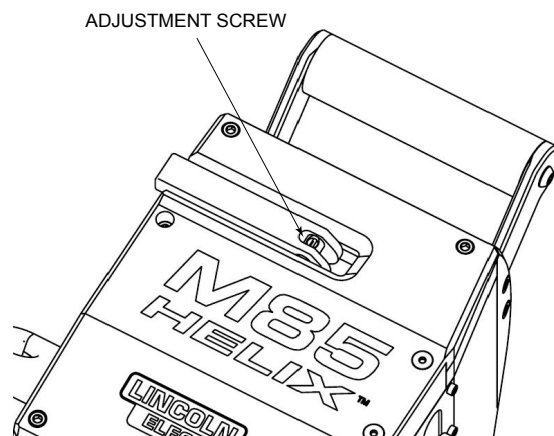

FIGURE 16 - Adjustment Screw
1. To adjust the clutch latch tension, use a flat-head screwdriver to turn the adjustment screw – see **FIGURE 16 - Adjustment Screw**. Turn the adjustment screw counterclockwise to increase the tension, turn clockwise to decrease the tension.